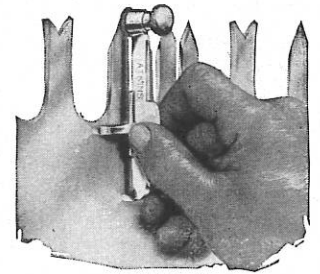

Figure 6
7. The amount of set necessary is determined by the kind of material to be cut. Perfect alignment is absolutely necessary. Therefore, always use the set gauge. The use of a set gauge is shown in Figure 6, Page 27.
gauged for accuracy, as shown in the cut illustrating the use of a set gauge (Fig. 6). We submit on Page 28 a number of cuts for your consideration which show the principal forms of saw teeth, both cutting teeth and rakers, for different kinds of timber and different requirements.